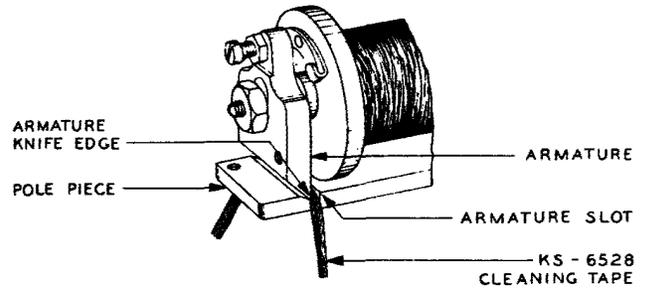

**Fig. 54 – Method of Cleaning Backstop on 221-, 222-, 223-, 224-, 225-, 247-, 248-, 251-, and 252-type Relays**
**7.16** Fold a piece of KS-7187 paper in half lengthwise. Insert one side of the folded paper between the armature lever and the backstop as illustrated by Fig. 54, at the same time holding the armature operated to permit the paper to enter easily. Hold the armature against the backstop with a force sufficient to give a slight pressure between the armature lever and the backstop and then withdraw the paper. Repeat the operation until the paper shows no evidence of dirt when it is removed. Use a clean piece of paper for each operation.